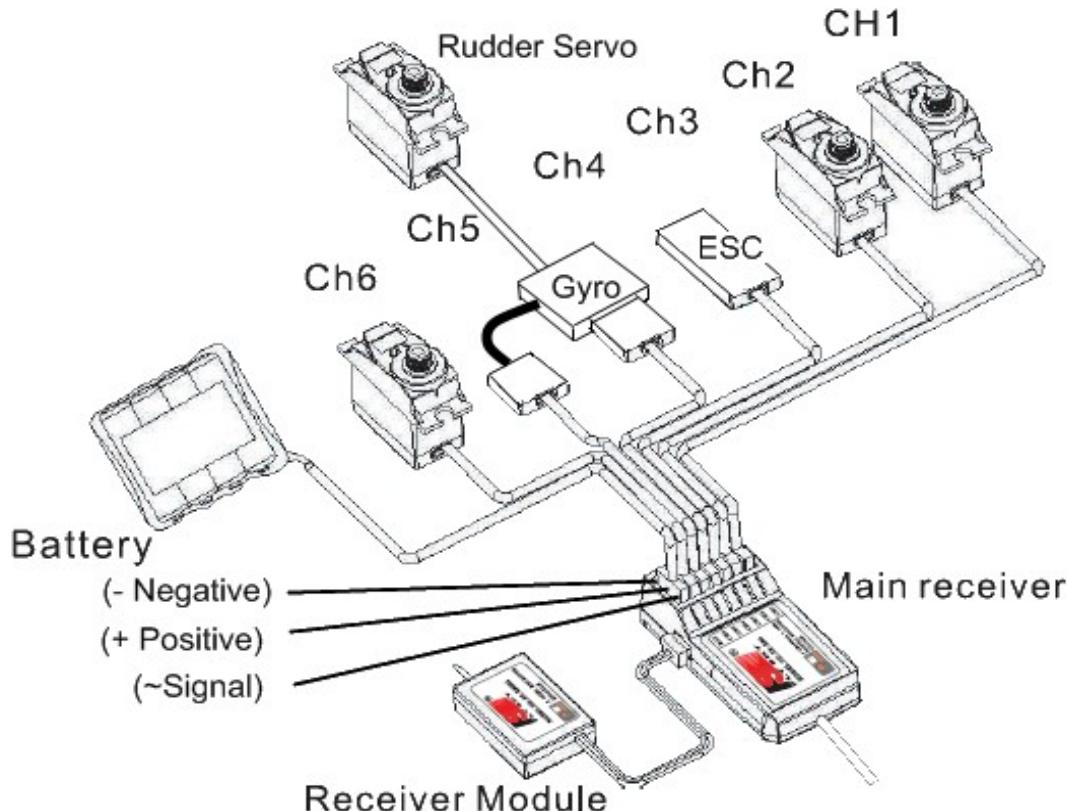

Fig 6
You should already have the servos installed, and the wires connected to the receiver as shown in Fig 6, and the wires secured to the frame so that they will not be caught in any moving parts. If not, then install the servos now. Refer to the TREX manuals, or your particular model manual to place the servos in the proper orientation. Use the same servo model for all three cyclic servos (Do not mix servo brands or sizes for your cyclic servos). These are the servos that will connect to and control the Swashplate.
CH1 – Aileron servo black wire towards the edge of the receiver. (All connections will have the black wire connected towards the edge of the receiver (see Fig 6 below). (Note: The TREX manuals label the left side servo as Aileron, and the right side as the Pitch servo. We don't know if this is a typo, but the accepted name for CH1 right side servo is the Aileron servo.)
2. Insert the binding plug into the BAT port of the receiver (see Fig 6)
3. Connect the ESC to Channel 3, or an external battery (5vdc) to any one of the other channels observing the +/- polarity as in Fig 6. Power up the receiver using the external battery, or connecting the main battery to the ESC. The LEDs should start to flash.
7. Remove the receiver binding plug. Connect your servos and other channels as described in Fig 6.